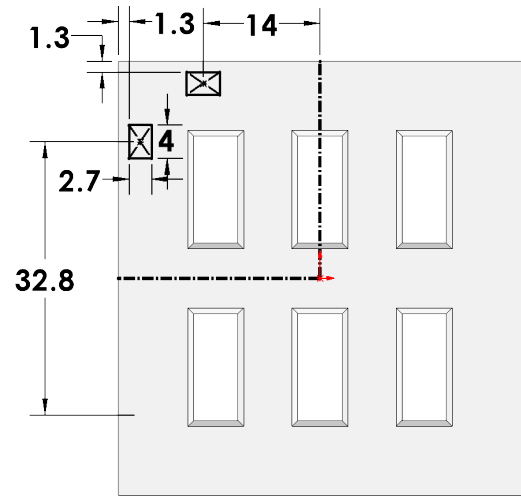

Fig. 28
Step 10. Click **Smart Dimension**  (S) on the Sketch toolbar.
Step 11. Add dimensions, **Fig. 28**.